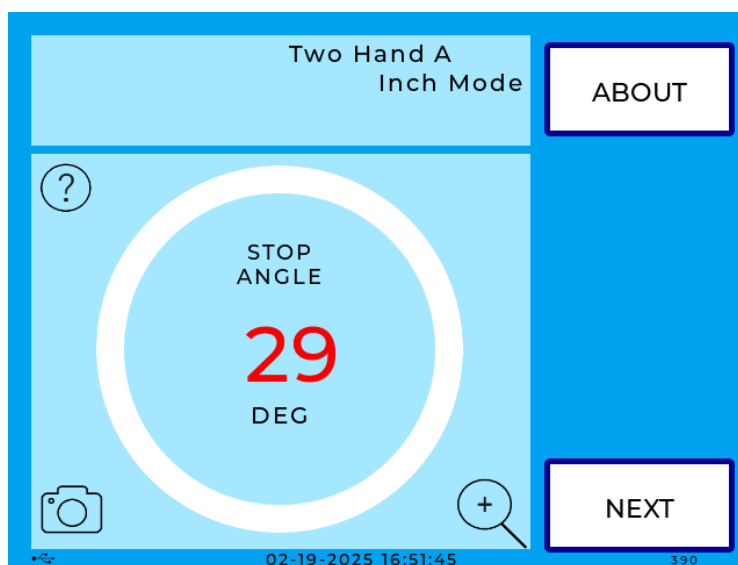

Figure 34. Stopping Angle Screen
2. Press NEXT repeatedly until the Stop Angle screen appears showing the angle, Figure 34.